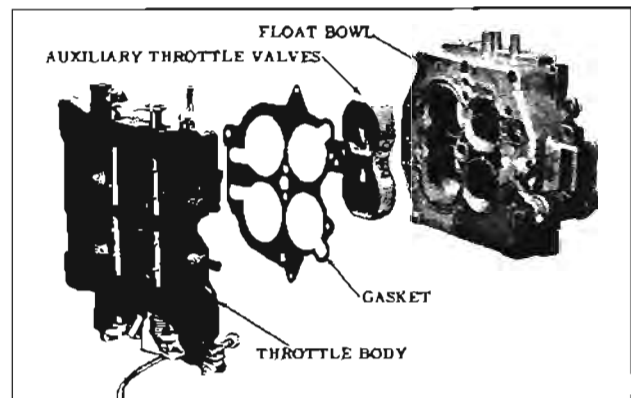

Fig. 9-178 Throttle Body and Auxiliary Throttle Valves
15. Invert the carburetor body and remove the four throttle body attaching screws. Remove the throttle body and gasket. (Fig. 9-178)
1. With the carburetor body in the inverted position, install the auxiliary throttle valve assembly so that the calibrated spring operating pin is down. (Fig. 9-178)